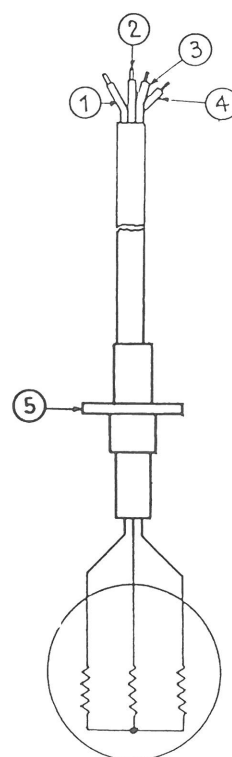

fig. 6 - Abb. 6 - fig. 6
15.6. SCHEMA ELETTRICO ELETTROPOMPA TRIFASE (fig. 6)
15.6. WIRING DIAGRAM FOR THREE-PHASE ELECTROPUMP (fig. 6)
15.6. SCHEMA ELECTRIQUE ELECTROPOMPE TRIPHASEE (fig. 6)
15.6. SCHALTPLAN DREIPHASIGE ELEKTROPUMPE (Abb. 6)
15.6. ESQUEMA ELECTRICO ELECTROBOMBA TRIFASICA (fig. 6)